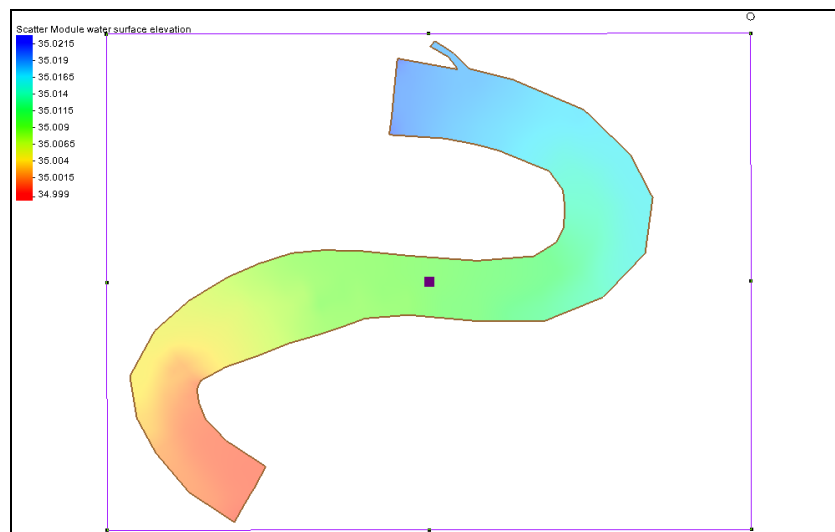

Figure 3 Grid frame enclosing the S-curve
6. Using the **Create 2-D Grid Frame**  tool, create a grid frame enclosing the entire S-curve, as shown in Figure 3.